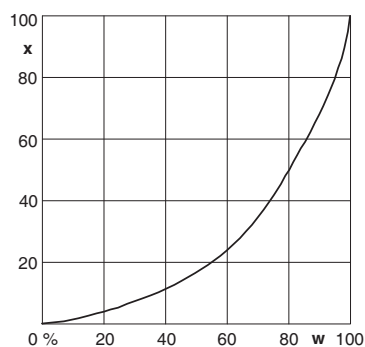

Fig. 4.2
4.2 "Equal percentage": Results in an equal percentage characteristic line with a position ratio of 1:50 for a valve of linear characteristic. See Fig. 4.2